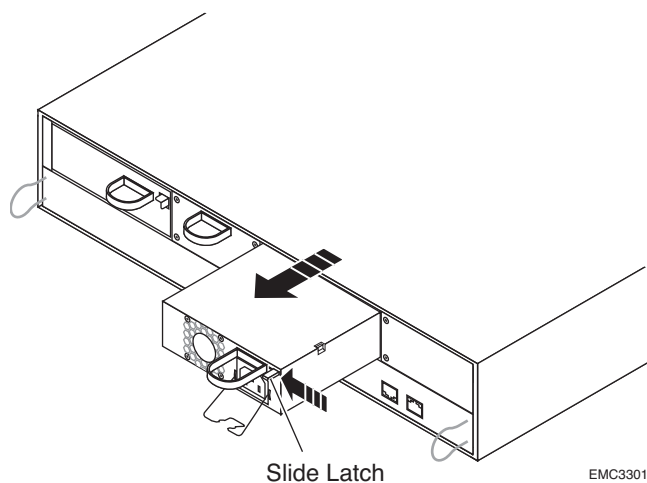

FIGURE 13. Removing an SSR212PP-Series Power Supply
- STEP 3.** Push the securing latch lever to the left as you pull the power supply straight out of the chassis (Figure 13).